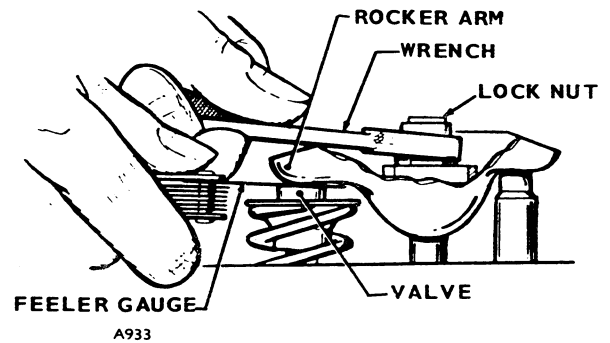

FIGURE 12. CHECKING VALVE CLEARANCE
4. Check valve clearance with a feeler gauge between the rocker arm and the valve (Figure 12). Increase or reduce the clearance until the proper gap is established. Correct valve clearance is 0.011-inch (0.28 mm) intake and 0.008-inch (0.20 mm) exhaust.